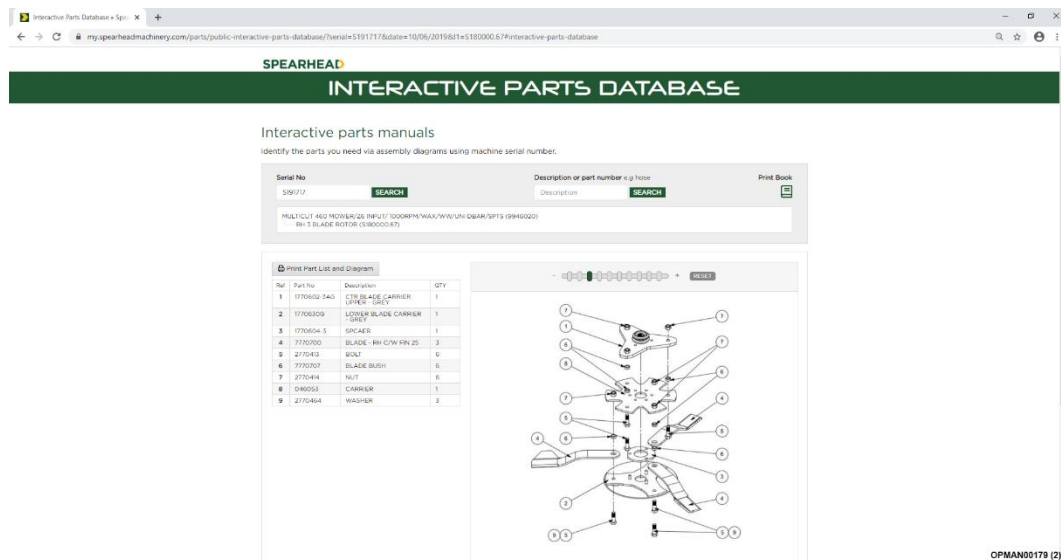

Figure 27 – Exploded Parts Breakdown With Bill Of Materials
- 7.1.1.4 You will finally be presented with a full exploded parts breakdown for that particular assembly, giving part numbers and the quantities required; see Figure 27.